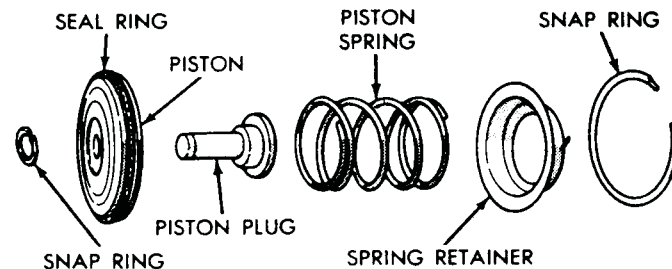

Fig. 27—Low-Reverse Servo
(1) Remove snap ring from piston and remove the piston plug and cushion spring (Fig. 27).